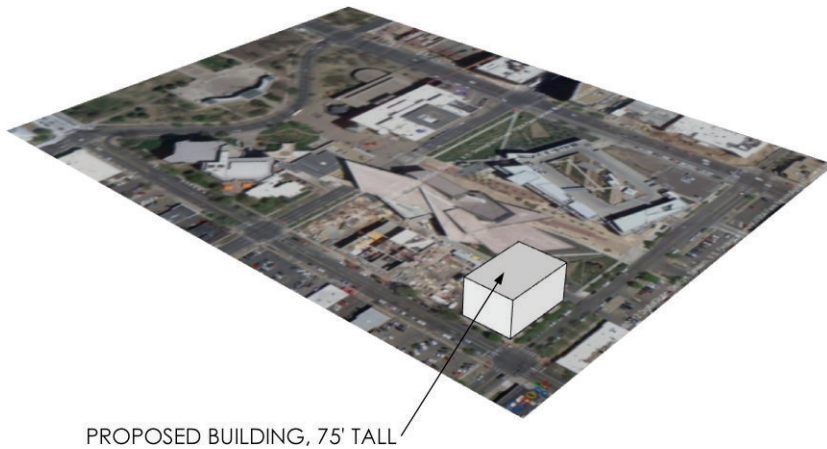

Figure 16.3 The proposed building at the southwest corner of the site
7. Toggle the Google Earth Terrain off and add a proposed building mass on the southwest corner of the site, as shown in Figure 16.3.